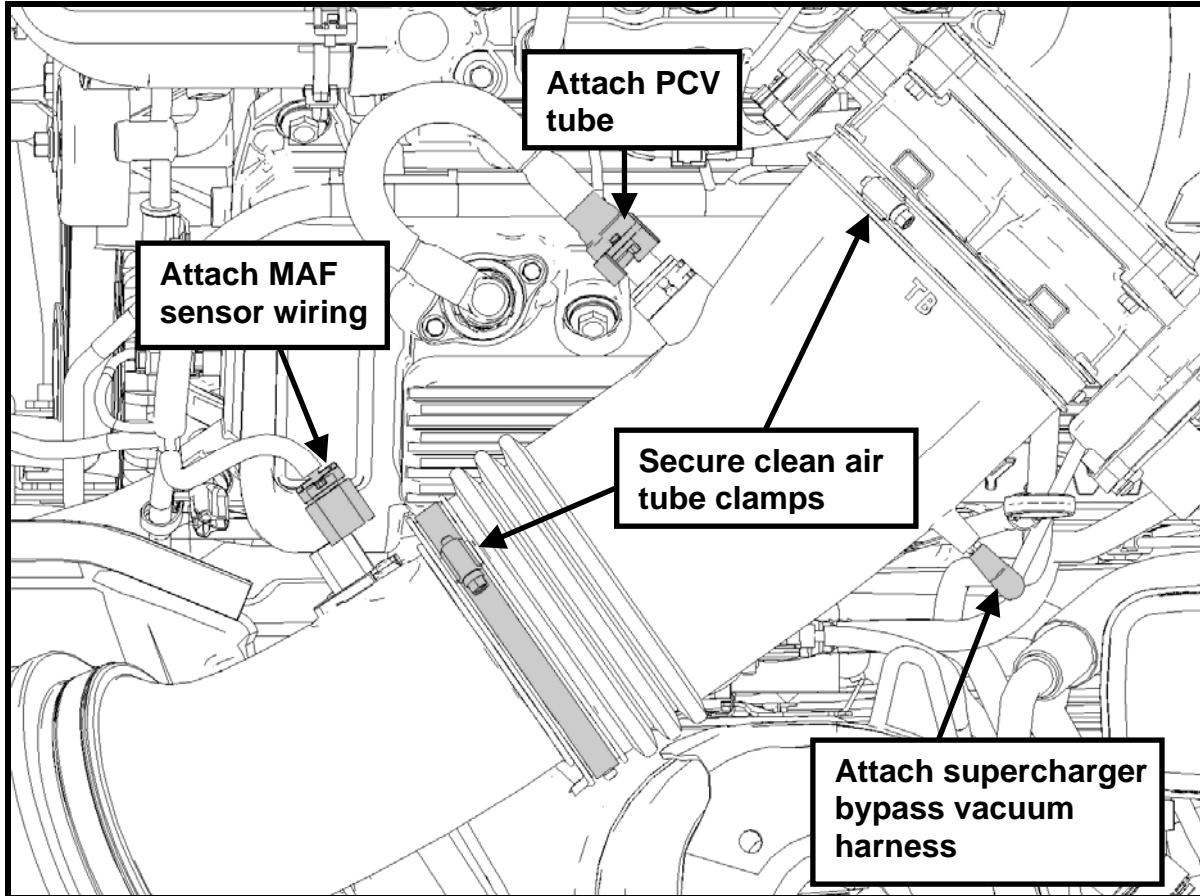

Fig. 36
STEP 20: Install the stock rubber clean air tube onto the new clean air tube/airbox assembly. Tighten both ends using worm drive clamps and torque to 3 Nm (26 lb in) (See Fig. 36).
STEP 21: Re-install the PCV line and vacuum harness onto the clean air tube. Re-install the MAF electrical connector onto the MAF sensor (See Fig. 36).